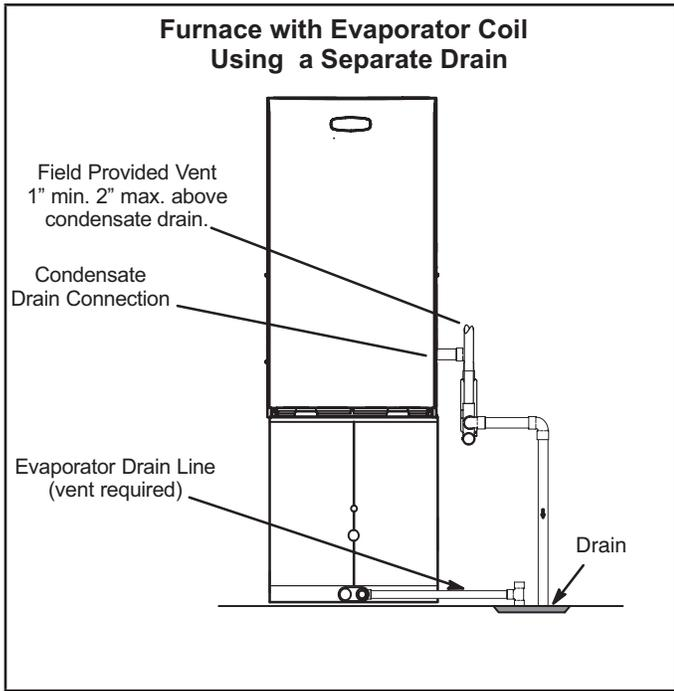

**FIGURE 46**
**NOTE** - Appropriately sized tubing and barbed fitting may be used for condensate drain. Attach to the drain on the trap using a hose clamp. See FIGURE 46